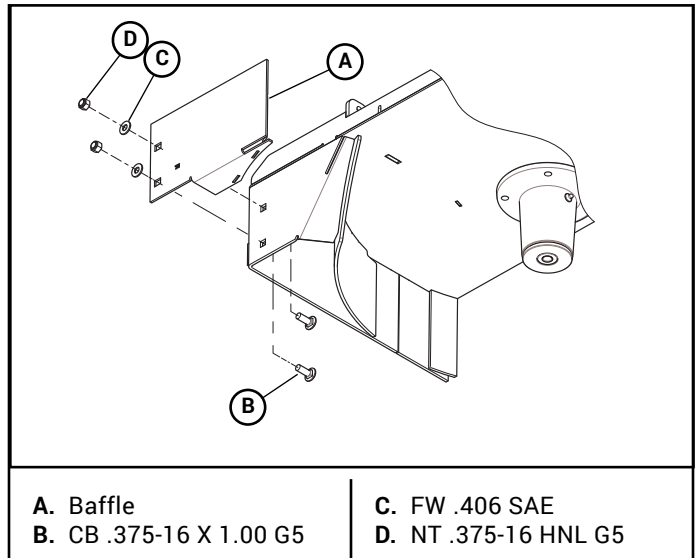

Figure 4-15
7. Remove the blower baffle. Figure 4-15